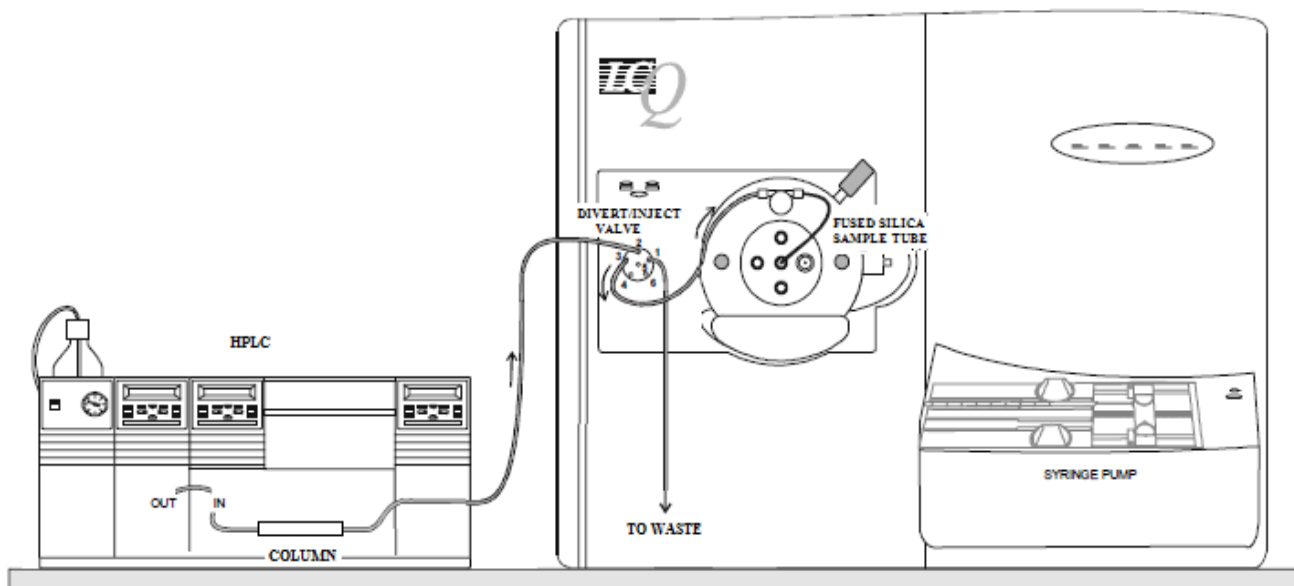

Figure 18. ESI/MS plumbing connections for HPLC-MS analysis.
8.2.4.2.2. Setup the plumbing connections as shown in Figure 18.